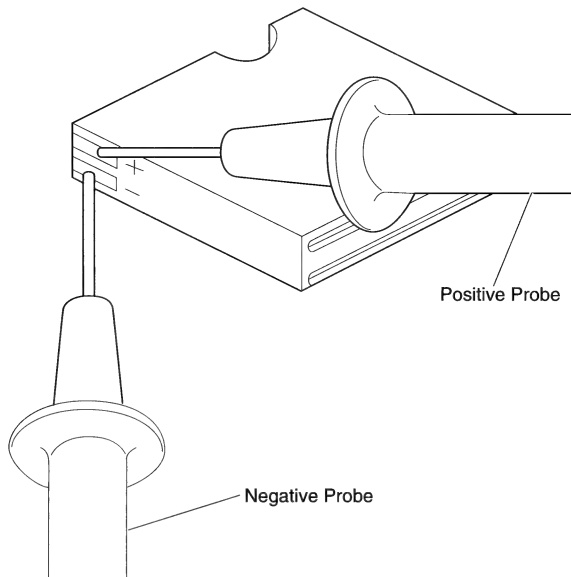

Figure 3 Battery Verification
4. Hold the positive probe of the voltmeter to the positive side of the battery and the negative probe to the negative side of the battery (see Figure 3).